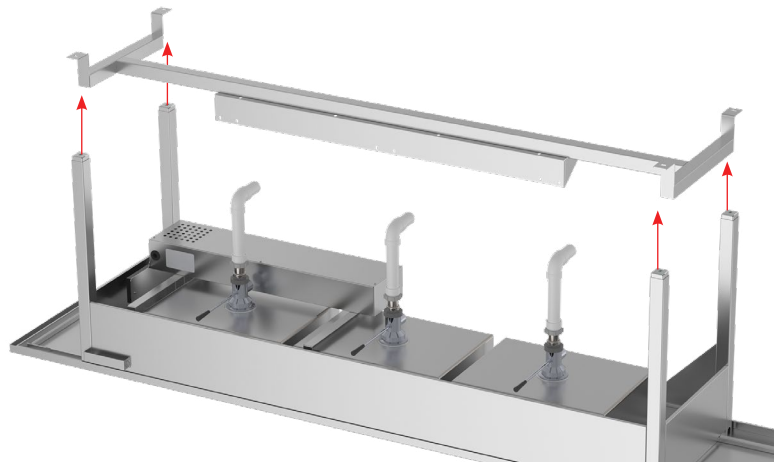

Fig. 4: Remove lower brace/shelf
3. Lift off the sink lower brace/shelf (Fig. 4) and set aside for later reinstallation.